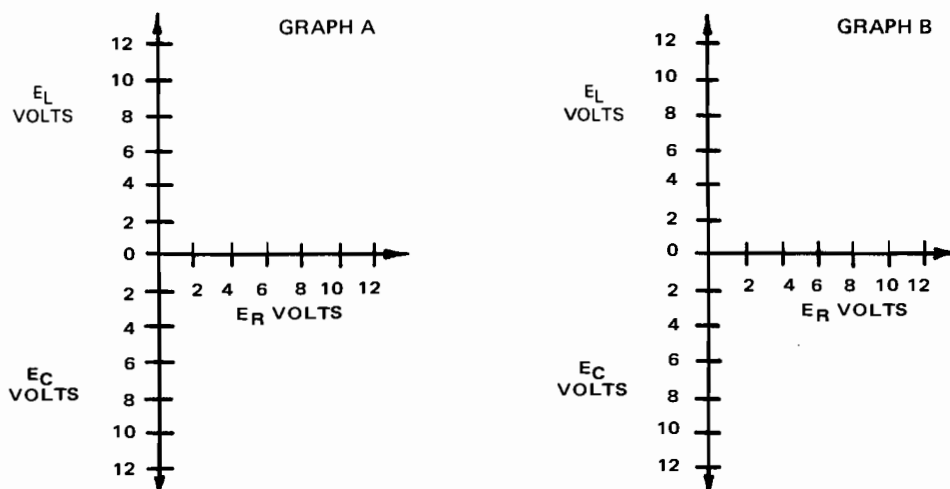

Fig. 11-1-2
5. Using measured values of E_L , E_C , and E_R , make a vector diagram of resonant circuit on graph A in Fig. 11-1-2.